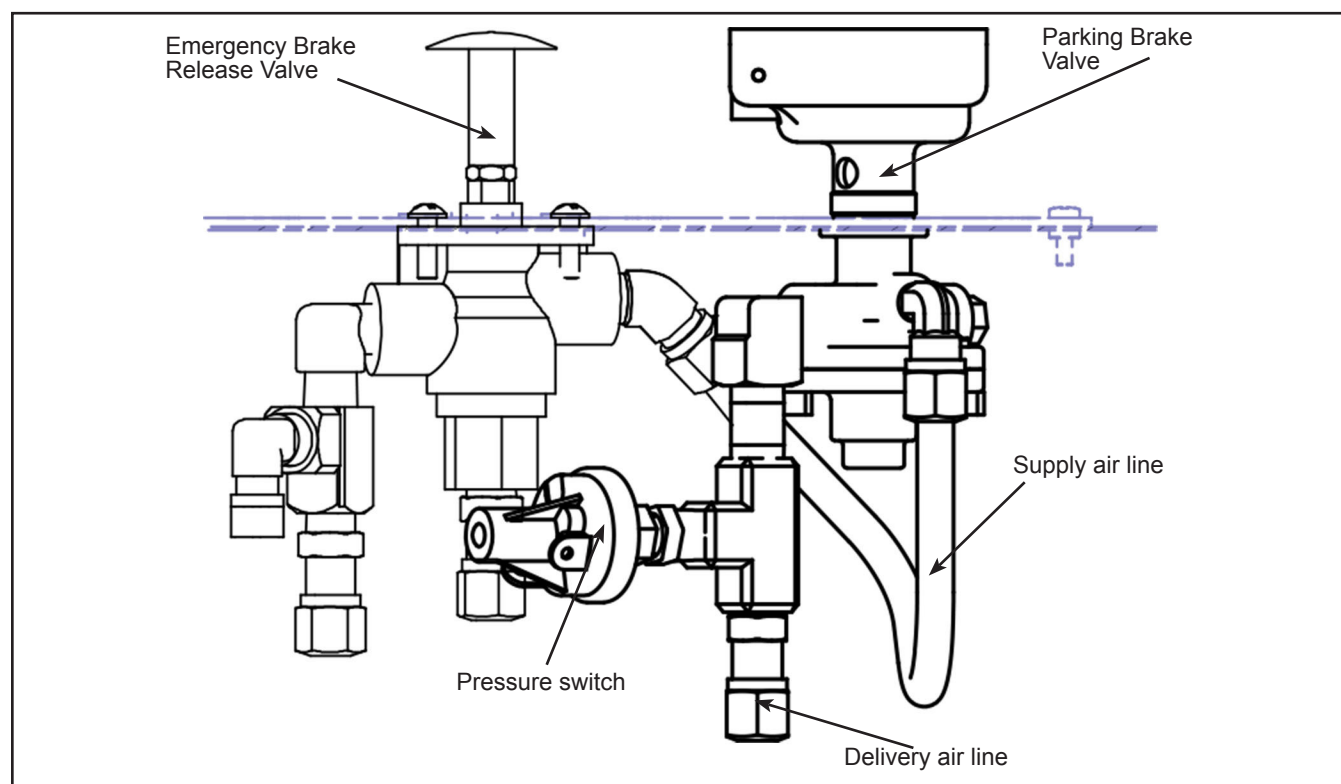

Figure 1 - Brake Valve Installed on Pneumatic Control Panel
- 1.4. Disconnect the air lines (supply and delivery) connected to the parking brake valve. See Figure 1.
- 1.5. Disconnect the air line linking the emergency brake release valve and the parking brake valve. See Figure 1.
- 1.6. Disconnect the wire from the parking brake valve's pressure switch. Retain the hardware. See Figure 1.